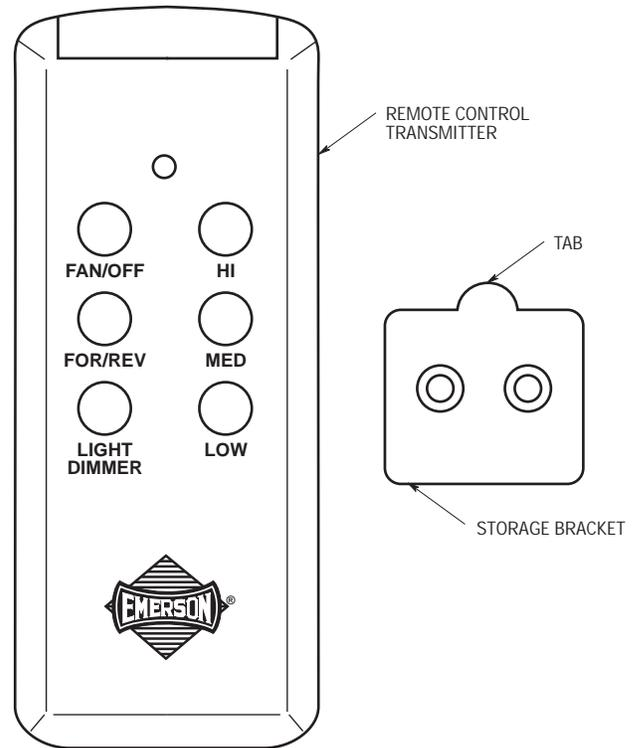

Figure 14
1. To set the desired fan speed, press the HI, MED, or LOW buttons to operate your fan on high, medium, or low speed (See Figure 14).
A storage bracket is supplied with the remote control for holding the transmitter when not in use. If you desire to use the bracket, use the two screw (supplied) and install it on a wall that is away from excess heat or humidity. When installing, orient the bracket so that the tab is at the top and away from the wall (See Figure 14).